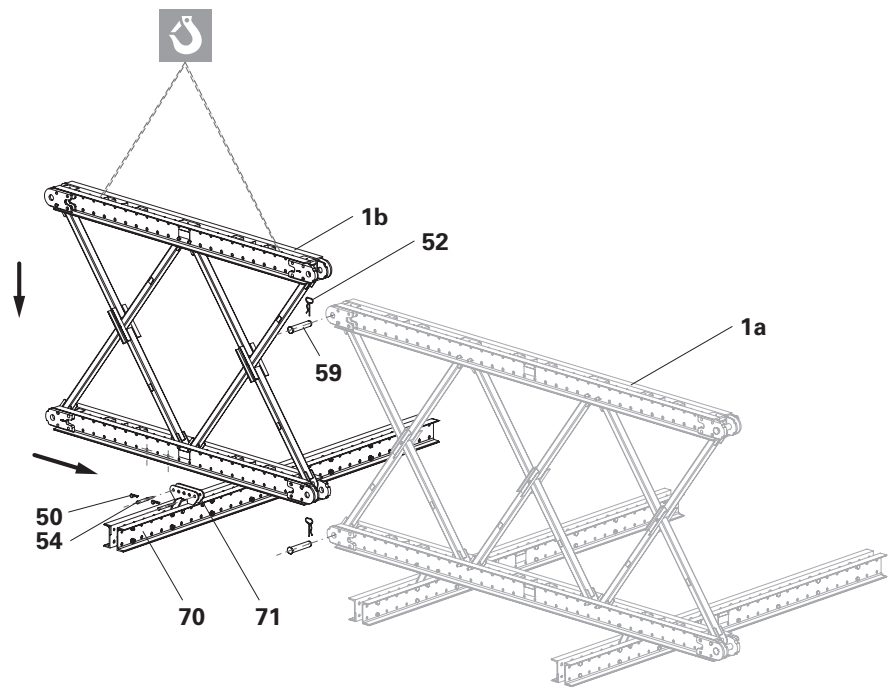

Fig. B1.06
2. Fix one cross connector (**71**) to the climbing rail (**70**) by means of filler pins and secure with cotter pins. (Fig. B1.06)
3. Place an additional standard frame (**1b**) over the cross connector using the crane and set down on the climbing rail. (Fig. B1.06)